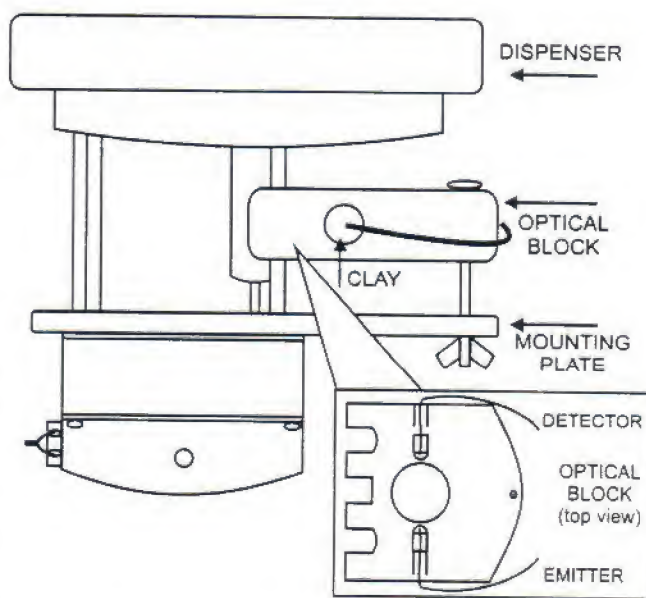

Fig 12. “A” Dispenser and Optical Block
2. The cog wheel normally turns counter clockwise. (See Fig 12) Try turning the wheel *clockwise* just a little. (**Caution: Do not** turn the cog wheel very far in a clockwise direction. Doing so may cause the roller to jam in the groove, damaging the switch tab.) Expect considerable resistance as you will be overcoming the resistance of the motor and the product (gumballs) above the dispenser wheel, as well as clearing the jam.